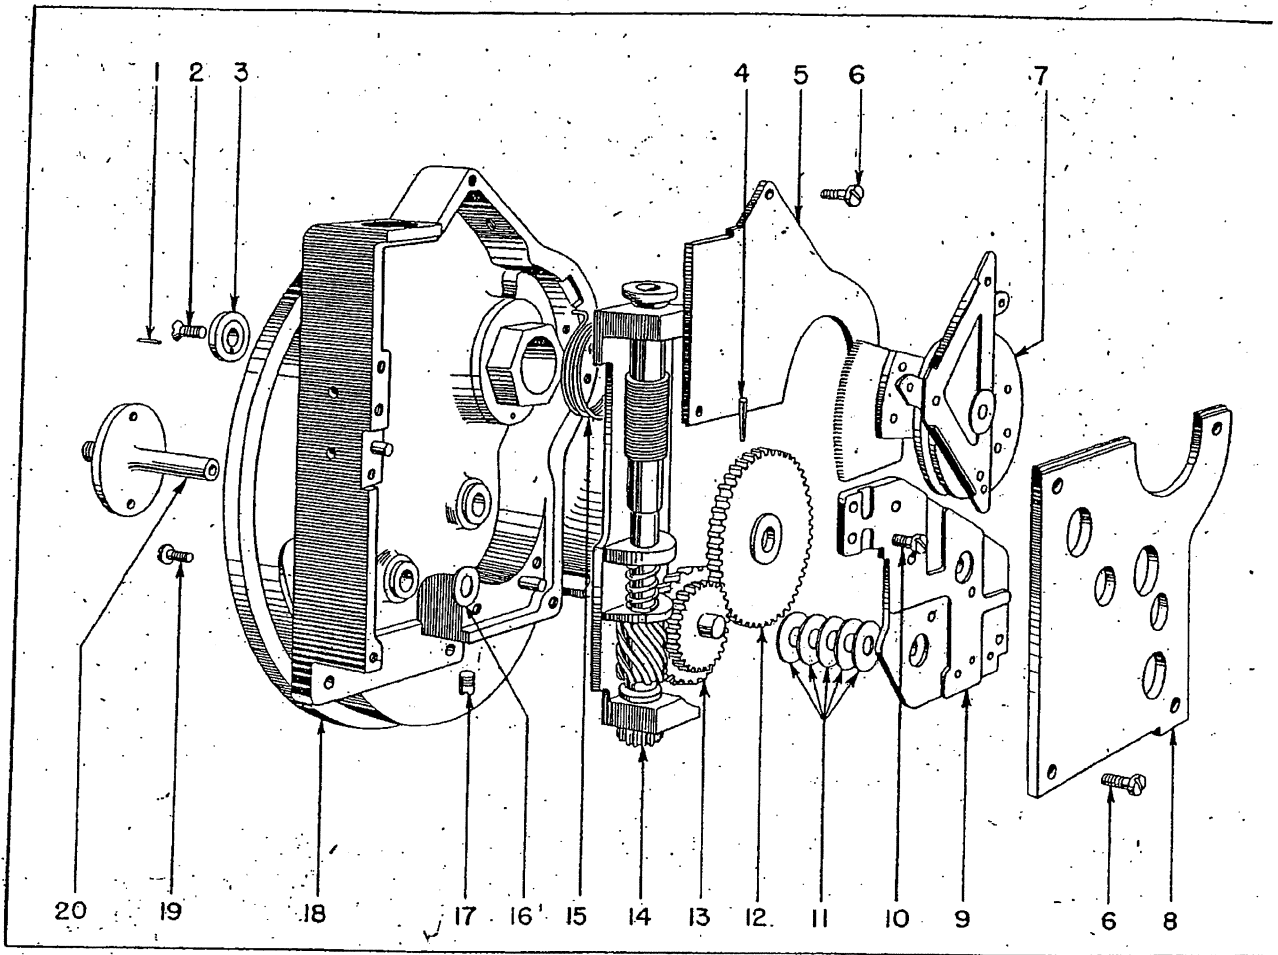

Figure 17—Frame Assembly
b. FRAME ASSEMBLY. (See figure 17.)—Remove seven fillister-head screws (6), lower main frame cover (8) and upper main frame cover (5).
i. SECTOR ASSEMBLY. (See figure 17.)—Rotate worm assembly (14) to position sector assembly (7) in upper half of frame assembly (18) to facilitate its removal. Remove flathead screw (2), washer (3) and dowel pin (1), then very carefully lift up sector assembly and when it is clear, rotate it counterclockwise one revolution to relieve the tension of the sector spring (15) and facilitate its removal. Sector spring (15) underneath may impede this operation and great care should be exercised to prevent damage to sector and spring in the removal.
j. DIAL SHAFT ASSEMBLY. (See figure 17.)—To remove the dial shaft assembly, it is first necessary to remove the plug screw (17). Rotate the worm assembly (14) to bring the narrow end of the taper pin (4) in the idler gear (12) into position and drive it out. Then remove the three mounting screws (10) and take off the outboard plate (9).
k. GEAR ASSEMBLY. (See figure 17.)—Before removing the gear assembly (13) it is necessary to remove the dial shaft assembly. Then lift out the gear assembly (20). The gear assembly includes a spiral gear shim (16) on the spiral gear end of the shaft and an idler gear shim (11) on the idler gear end of the shaft.
l. WORM ASSEMBLY. (See figure 17.)—Remove three mounting screws (19) and detach worm assembly (14).
KEY TO FIGURE 17
b. WORM ASSEMBLY. (See figure 17.)—Attach the worm assembly (14) to the frame assembly (18) with three mounting screws (19).
i. GEAR ASSEMBLY. (See figure 17.)—When re-assembling the gear assembly (13), insert the .010-inch thick brass spiral gear shim (16) on the shaft next to the spiral gear. On the opposite end of the shaft, insert the proper combination of idler gear shims (11) of various thicknesses to allow only .002 inch end play when the outboard plate (9) is fastened down tight with its mounting screws (10).
j. DIAL SHAFT ASSEMBLY. (See figure 17.)—Insert the dial shaft (20) into its bearing, so that the large opening of the taper hole in the shaft faces the plug screw (17) hole. Add the idler gear (12) so that the large opening of the taper hole in the hub of the gear also faces the plug screw hole. Before proceeding to the next operation, a special tool is necessary. It can be made from a 5-inch length of brass tubing having an outside diameter of .125 inch and an inside diameter of approximately .079 inch and a 6-inch length of .062-inch diameter drill rod. Place the large end of the taper pin (4) in the brass tubing; then pass it through the plug screw hole in the casting and into the tapered hole in the gear and shaft. Using the drill rod, press the taper pin (4) into position. Then using a 5-inch